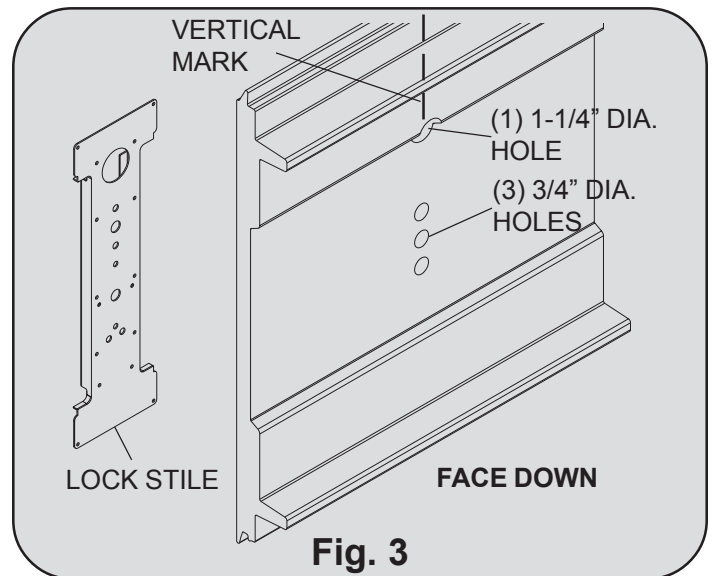

Fig. 3
9000 Series doors (see Fig.3), place the lock section face up on (2) padded sawhorses for a single car door or (3) padded sawhorses for a double car door. Locate the middle of the center stile, measure the distance from the end of the section to the middle of the center stile. Turn the section face down, transfer the measurement and mark a light vertical line. Align the center of the lock stile with vertical mark, use the lock stile as a template to mark the (4) holes, remove the lock stile and drill the (3) bottom holes to 3/4" diameter and the top hole to 1-1/4" diameter, drilling all (4) holes completely through the section.